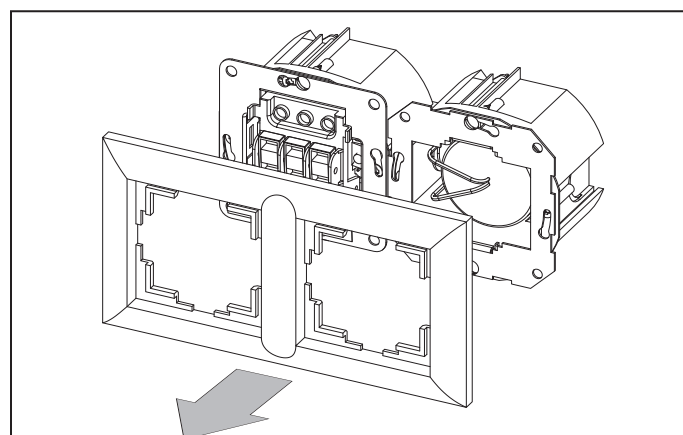

Fig. 19.
16. Unlatch and remove the frame of the control and power unit, Fig. 19.